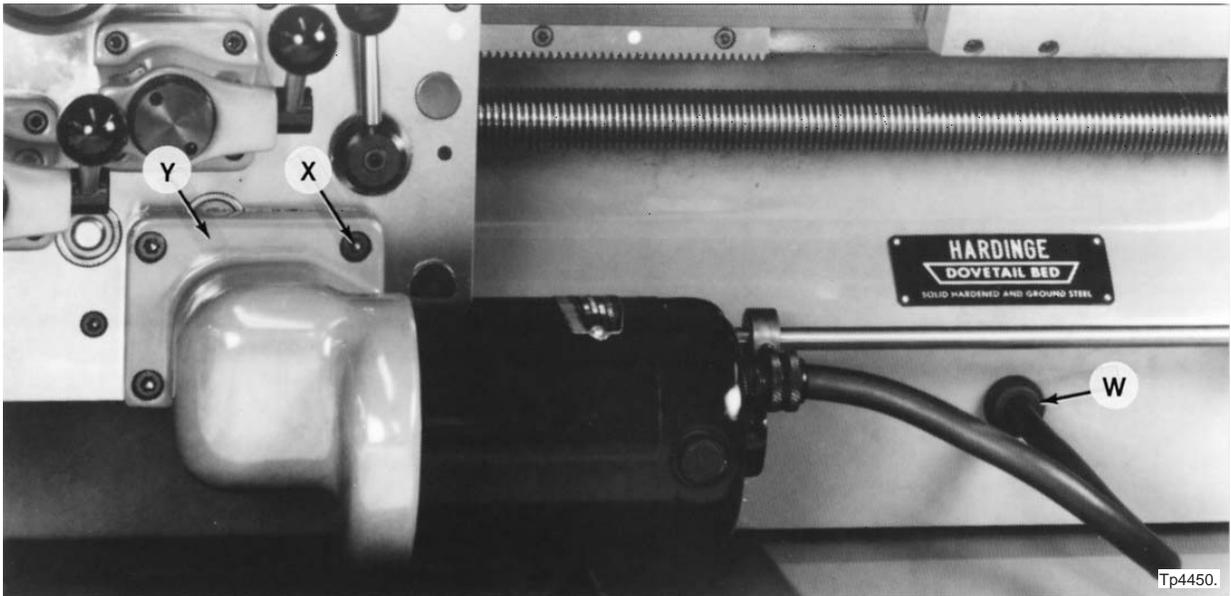

Figure 3.44 - Power Feed Drive Removal
11. Pull the power feed motor cable out through grommet "W", Figure 3.44, in the bed.
17. Remove three screws "X", Figure 3.44, and remove the power feed assembly from the carriage apron cover.
6. Apply Permatex® sealant to the surface of power feed housing "Y", Figure 3.44, that will be against the carriage apron cover.